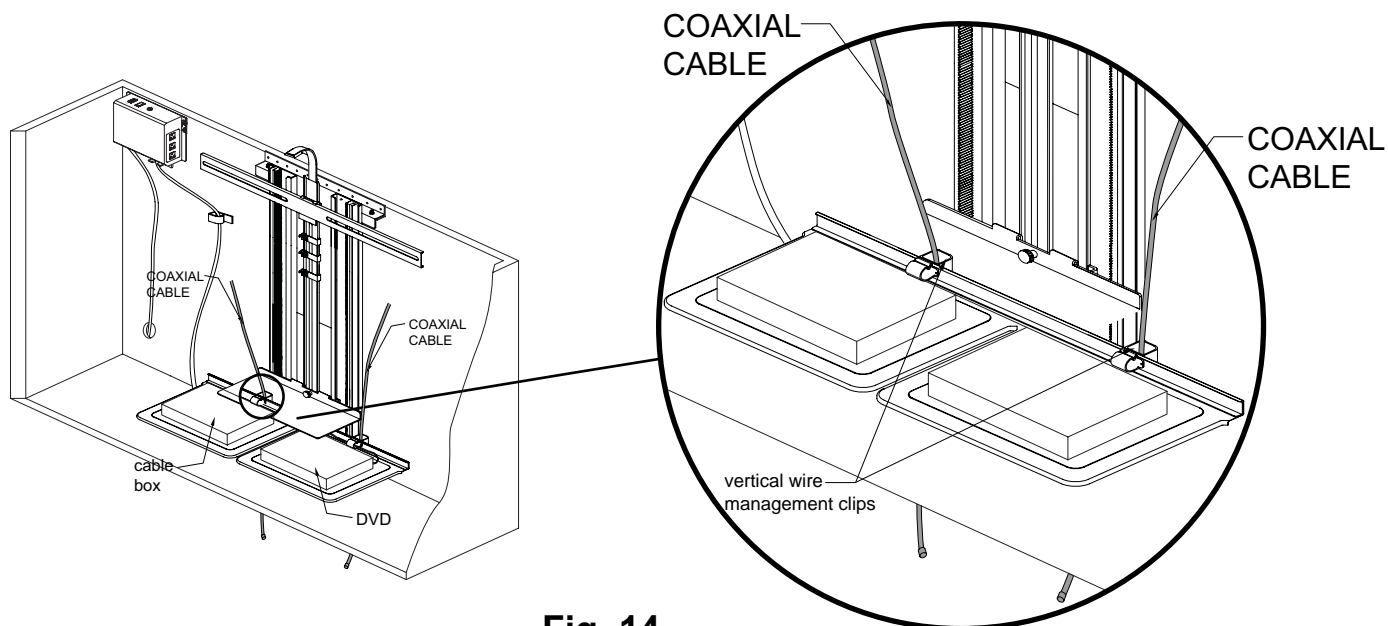

Fig. 14
- B) Run your cables and wires through the horizontal wire management clips as per Fig 14.